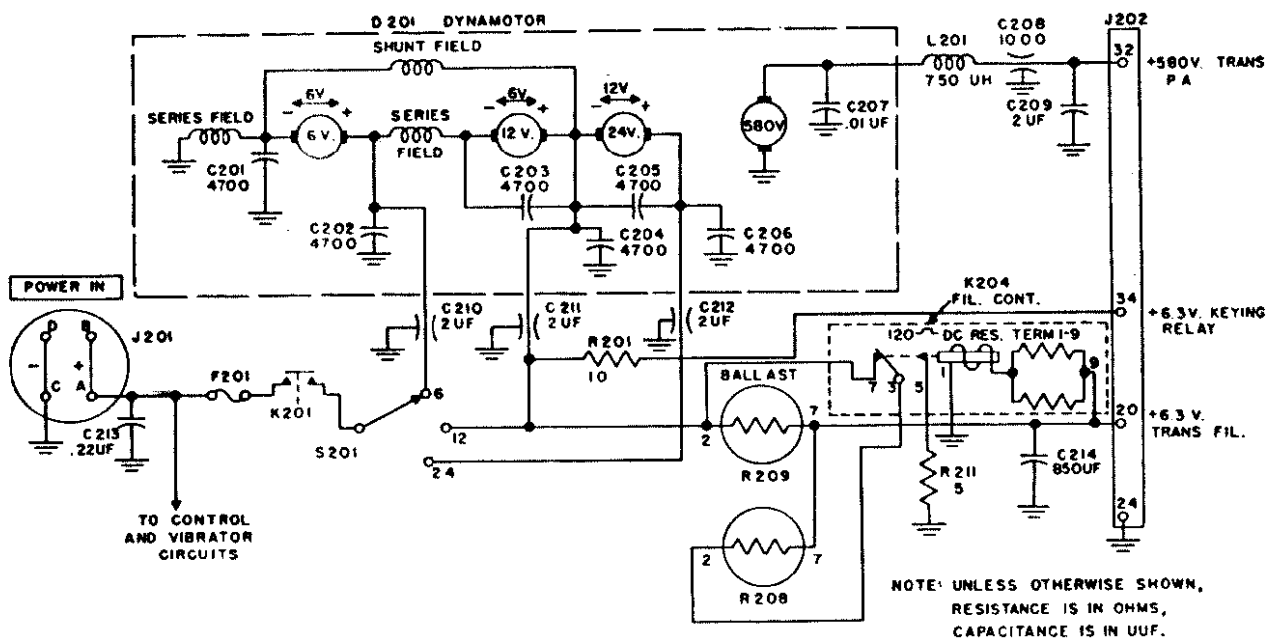

Figure 86. Dynamotor-Power Supply DY-88/GRC-9-GY, dynamotor circuits.
b. DYNAMOTOR START CIRCUIT. Battery power is applied to the dynamotor through DYN FUSE F201, the closed contacts of dynamotor start relay K201, and voltage selector switch S201 (fig. 86). Voltage selector switches S201 and S202A permit operation from a 6-, 12-, or 24-volt battery.
d. The h-v output from the dynamotor is fed through terminal 32 of J202 and is applied to the p-a plate when control E is turned to the SEND position (fig. 86). No p-a plate current flows until keying relay K101 is energized and contacts 9 and 10 close to apply high voltage to the p-a screen (figs. 80 and 81).
111. Transmitter Filament and Keying Relay Supply (fig. 86).
c. All armatures have a common field, so that any non-driving armature acts as a generator. Thus when S201 (fig. 86) is in the